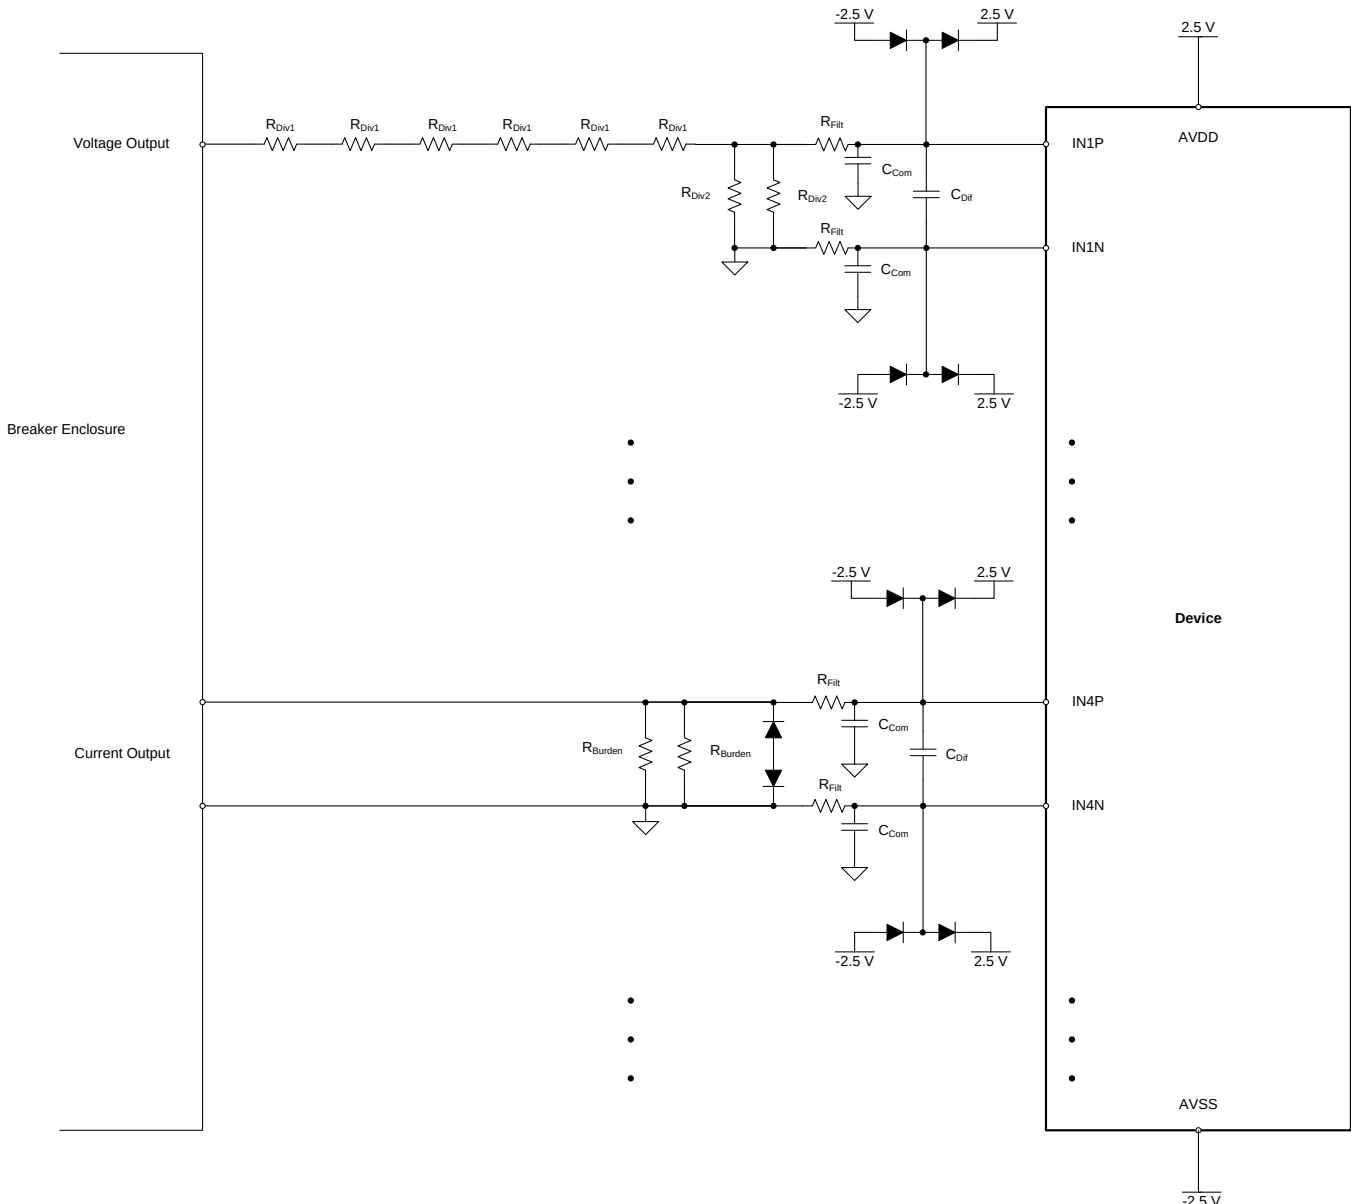

**Figure 60. ETU Block Diagram: High-Resolution and Fast Power-Up Analog Front-End for Air Circuit Breaker or Molded Case Circuit Breaker and Protection Relay**
Figure 60 shows the ADS131E0x being used as part of an electronic trip unit (ETU) in a circuit breaker or protection relay. Delta-sigma ( $\Delta\Sigma$ ), analog-to-digital converters (ADCs), such as the ADS131E0x, are ideal for this application because these devices provide a wide dynamic range.
**Equation 11** describes the transfer function for the voltage divider at the input in **Figure 60**. Using multiple series resistors,  $R_{DIV1}$ , and multiple parallel resistors,  $R_{DIV2}$ , allows for power and heat to be dissipated among several circuit elements and serves as protection against a potential short-circuit across a single resistor. The number of resistors trade off with nominal accuracy because each additional element introduces an additional source of tolerance.
The ADS131E0x measures the line current by creating a voltage across the burden resistance ( $R_{BURDEN}$  in **Figure 60**) in parallel with the secondary winding of a CT. As with the voltage measurement front-end, multiple resistors ( $R_{DIV1}$ ) that are used to step down a voltage share the duty of dissipating power. In this design,  $R_{BURDEN}$  is set to 33  $\Omega$ . Used with a 1:500 turns ratio CT, the ADC input saturates with a line current over 25 A when the ADC is configured using the internal 2.4-V reference and a PGA gain of 2.
Accuracy is measured using a system designed in a similar way to that illustrated in Figure 60. The CT used for the current input is CT1231 (a 0.3 class, solid core, 5:2500 turns transformer). In each case, data are taken for three channels over one cycle of the measured waveform and the RMS input-referred signal is compared to the output to calculate the error. The equation used to derive the measurement error is shown in Equation 12. Data are taken using both the 2.4-V and 4-V internal reference voltages. In all cases, measured accuracy is within  $\pm 1\%$ .